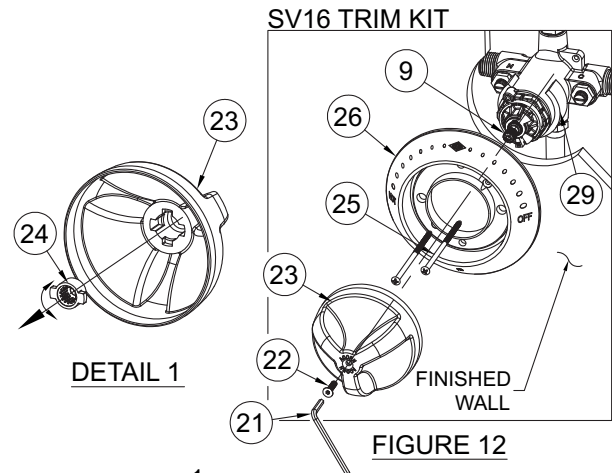

FIGURE 12
- Attach **valve body gasket 28** to valve body with gap on top as shown **Figure 12**.